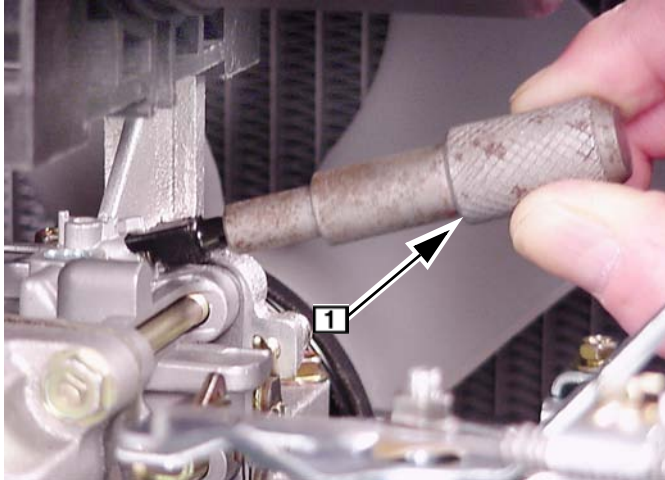

Fig. 190
- a. Position limiter cap so that stop on limiter cap is at mid point between stops on carburetor body. Press limiter into position using knock out pin **1**, Tool #19135, Fig. 190.